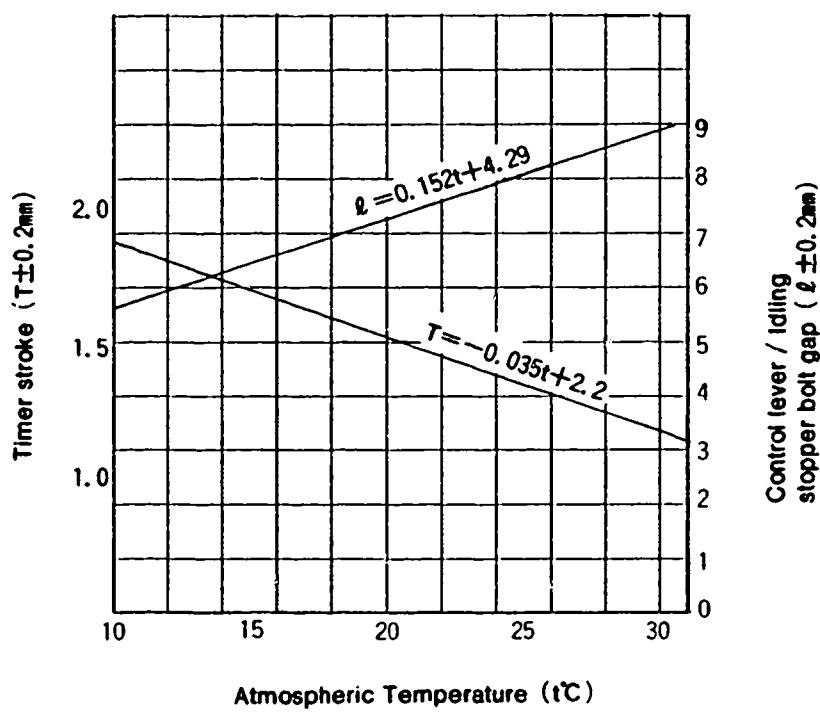

Fig. 2
① Using the graph (Fig 2), determine the Timer Stroke according to the atmospheric temperature at the time of adjustment.
② Adjust using the Timer Stroke adjusting bolt so that the Timer Stroke corresponds to the value determined in note ① above.
① Insert a block gauge (thickness gauge) of thickness 7.6 ± 1 in the gap between the control lever and the idling stopper bolt. (control lever angle : $12^\circ \pm 2^\circ$)
② With the control lever positioned as described in ① above, adjust the plate position so that the control lever plate and the dash pot push rod are in contact.
- ① Insert a block gauge of 5.3 \pm 0.05 mm thickness in the gap between the control lever and the idling stopper bolt.
- ② From Fig 2 determine the dimension of the gap between the idling lever pin and the control lever according to the atmospheric temperature at the time of adjustment.
- ③ Adjust using the fast idle adjusting screw so that the gap corresponds to the value determined in note 2) ② above.